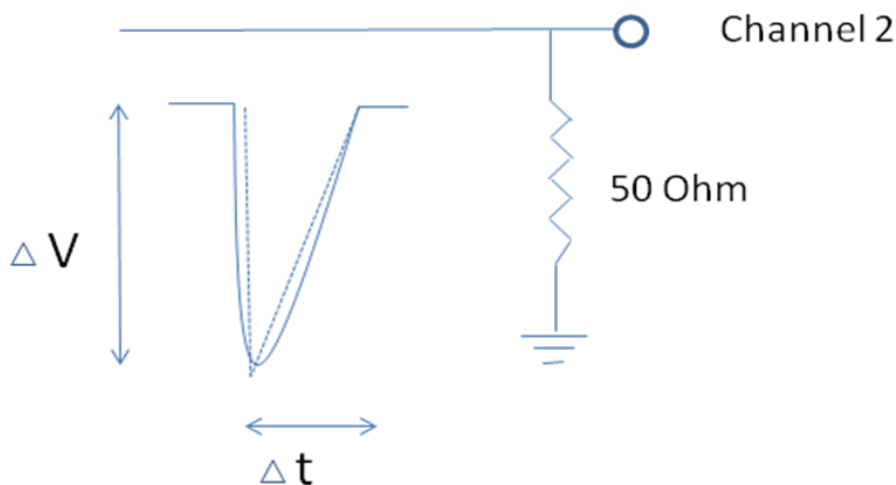

Figure 5. Input to the oscilloscope from a scintillation
20. Using channel 1 as a trigger, observe the analogue signal on channel 2. Channel 2 will then show the scintillator signals for the cosmic muons. Assuming that the signal is triangular, what is the charge of the signal? See Figure 5. **Note down the charge. You will need it again in exercise 4**